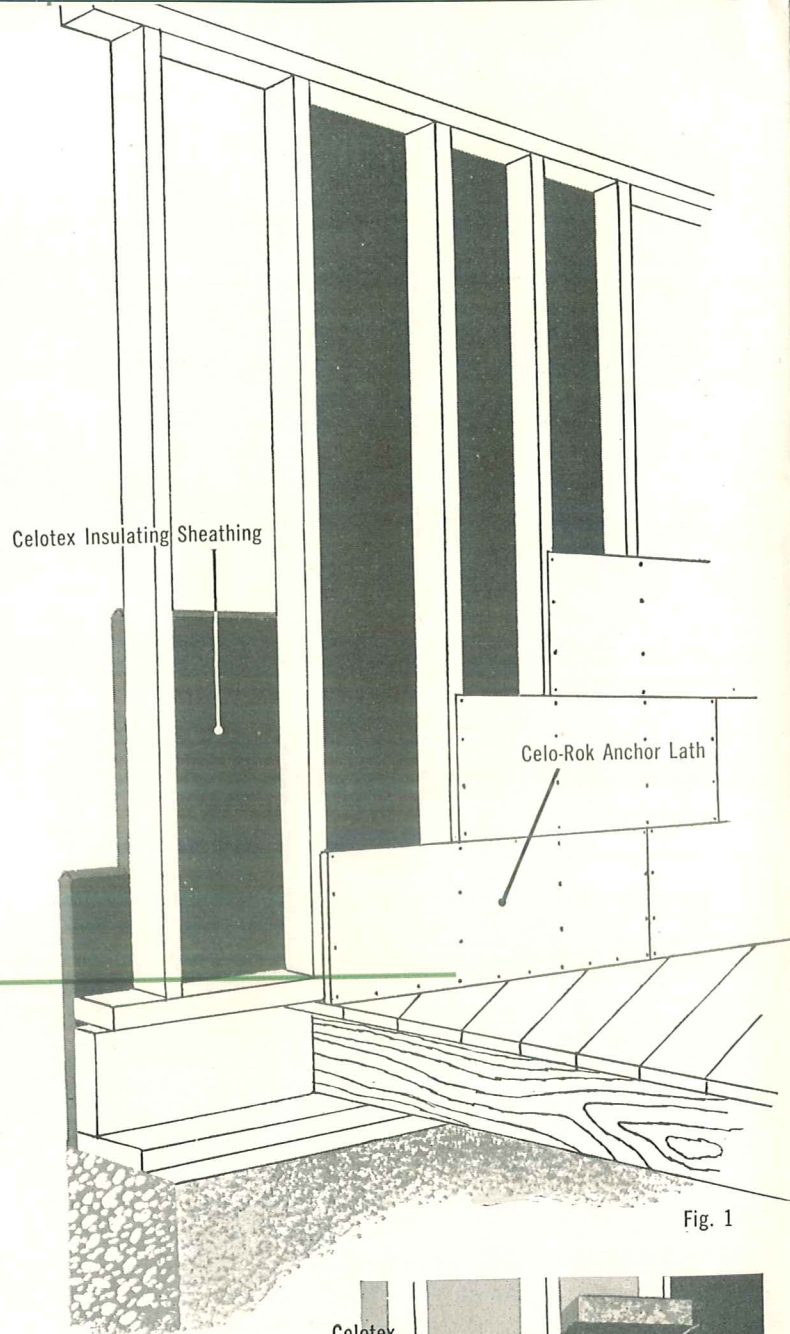

Fig. 1
1. Use Celotex Insulating Sheathing on the other side of the wall (see Fig. 1). This is a widely used combination and greatly increases the insulation value of the wall. Where more insulation is required, use the following method: